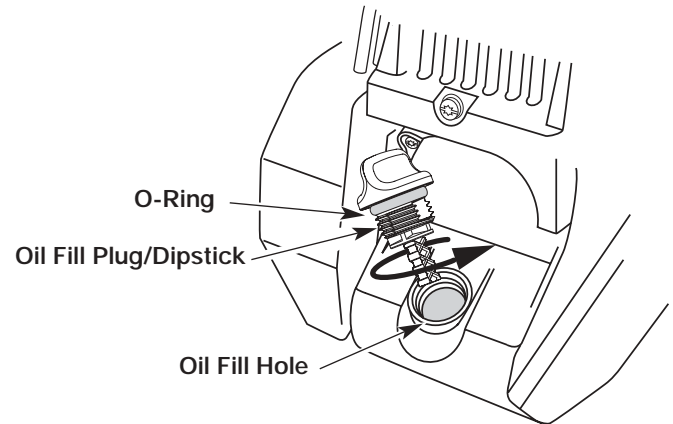

Figure 17
3. Remove the oil plug / dipstick from the crankcase. See Figure 17.